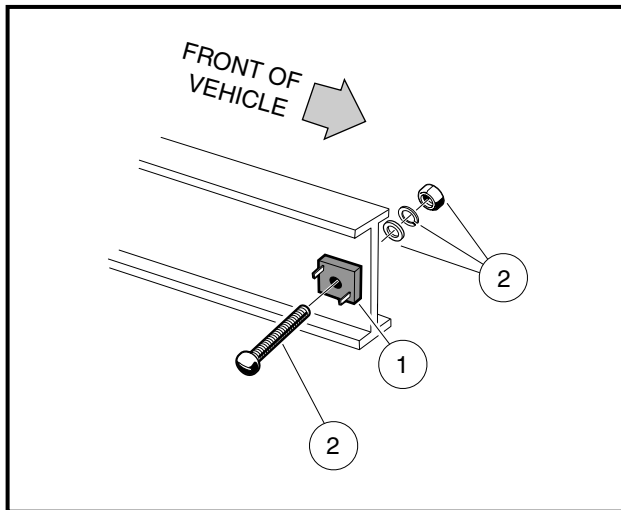
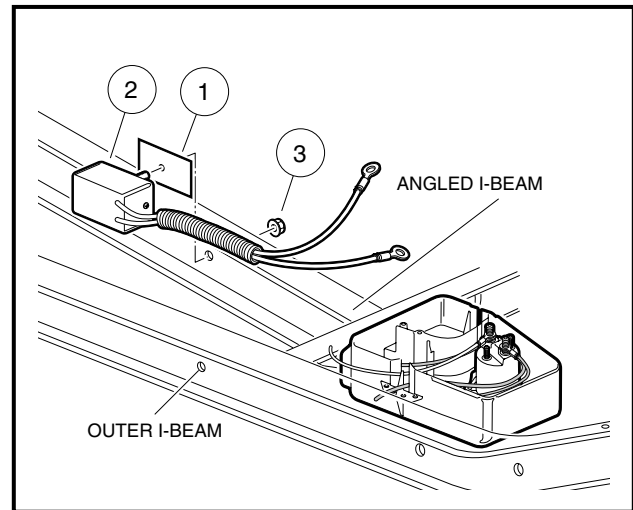

Figure 12-17 Small Style Diode
Figure 12-18 Large Style Diode
Key-start vehicles could have one of two styles of diode designs. One is referred to as a small diode (**Figure 12-17, Page 12-15**), and the other is referred to as a large diode (**Figure 12-18, Page 12-15**). Each has a separate removal and installation procedure. All vehicles equipped with the small style diode (**Figure 12-17, Page 12-15**) should be replaced with the current large style diode (**Figure 12-18, Page 12-15**). See **Service Bulletin 01-24, or refer to Diode Kit (CCI P/N 102272501).**
7. Remove the nut (3) from the diode body post and remove the diode (2) and thermal transfer pad (1) from the vehicle frame (**Figure 12-18, Page 12-15**).